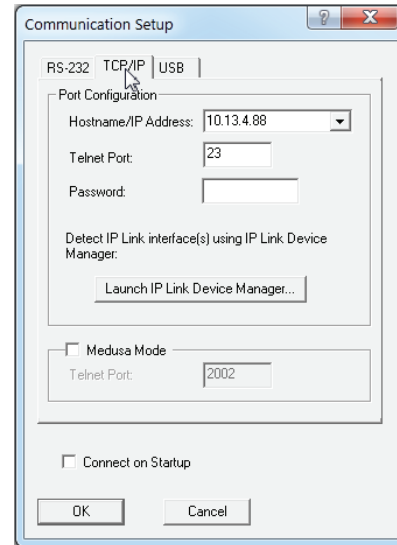

Figure 73. TCP/IP Communication Setup Window
3. On the **Communication Setup** window (see figure 73):